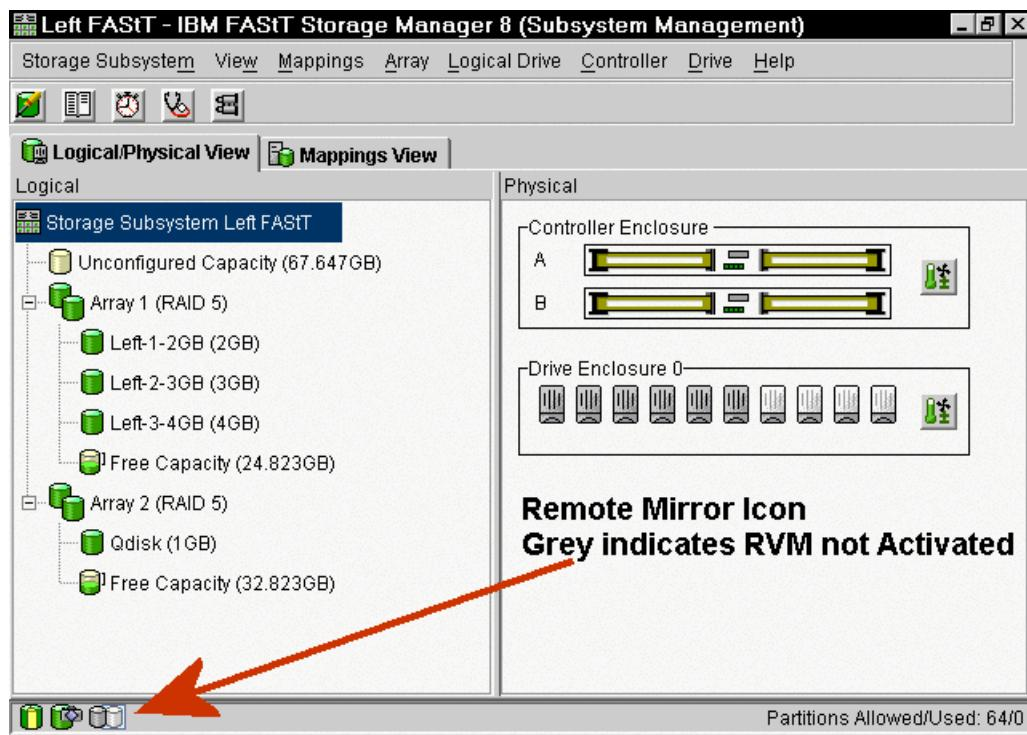

Figure 6-11 RVM not activated
- 12.Observe the Remote Volume Mirroring icon in the status area as shown in Figure 6-11. The icon represents the Disabled and Deactivated status of the Remote Volume Mirror option.